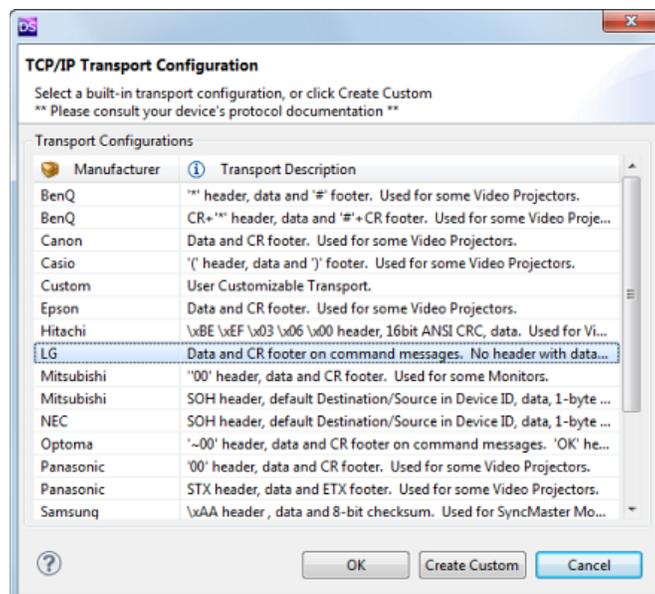

FIG. 38 TCP/IP Transport Configuration dialog
2. This opens the *TCP/IP Transport Configuration* dialog. Select a built-in transport from the list of available TCP/IP transport configurations, based on the Device Type and Manufacturer selected in the *Device Information* tab. Note that the Transport Description column provides details on each transport configuration (FIG. 38):